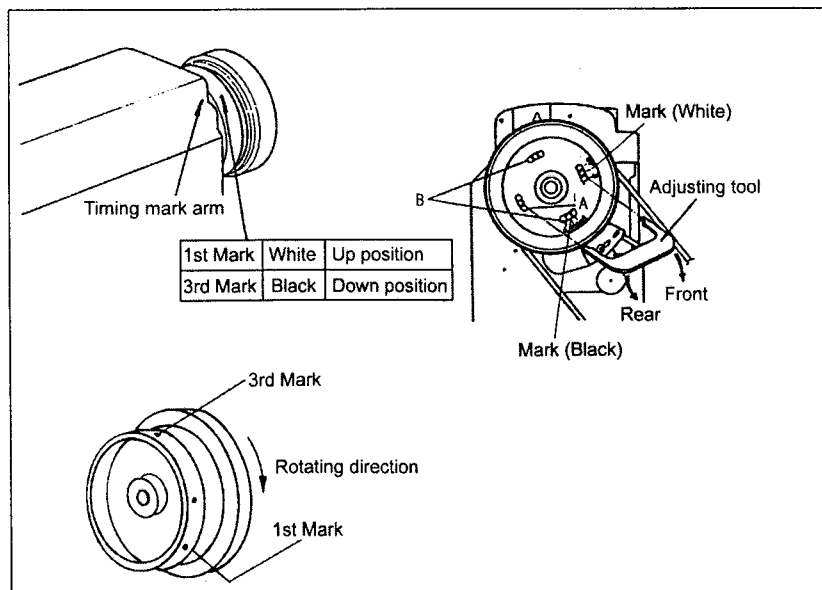

Fig. 3
4. Adjustment of needle bar stop position(Fig3):